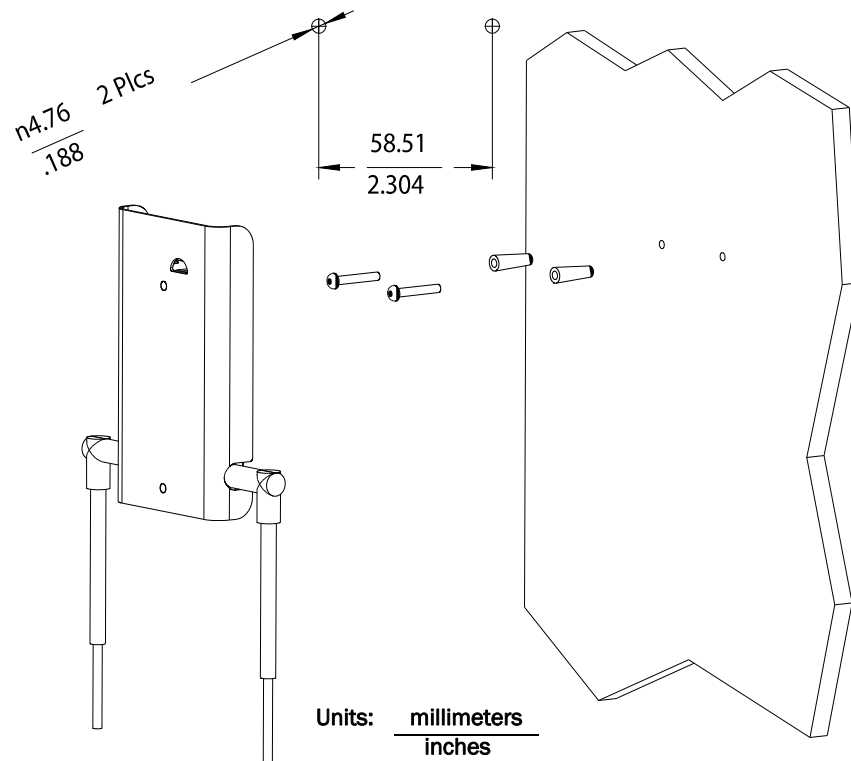

Figure 2-16: Mounting the IntelliVue Smart-hopping 1.4 GHz Remote Antenna to a Wall
1. Using a 3/16-inch drill bit, drill two pilot holes 0.188 inches (5 mm) in diameter at the locations shown in Figure 2-16.
3. Screw a supplied #6 x 1 1/4 inch self-tapping screw into each screw anchor (or pilot hole) as shown in Figure 2-16.
4. While holding the RA chassis with its antennas pointing down as shown in Figure 2-16, fit the holes in the back of the RA chassis over the screw heads